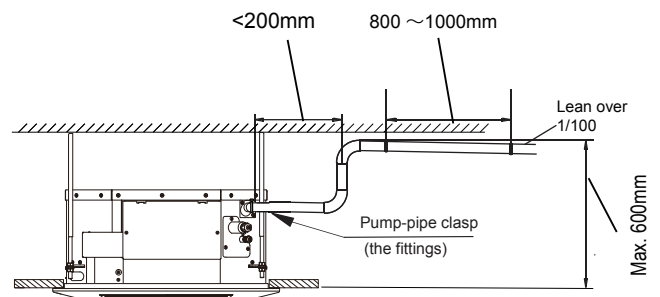

Fig.8-2
7) If the drainage pipe outlet is higher than the pumping connection pipe of the main body, arrange the drainage pipe upwards vertically using the connection assembly of the water outlet for vertical bending. Set the height of the drainage pipe to the water pan surface to no more than 600 mm to avoid excessive backflow and overflow during shutdown. (Refer to Fig.8-2.)